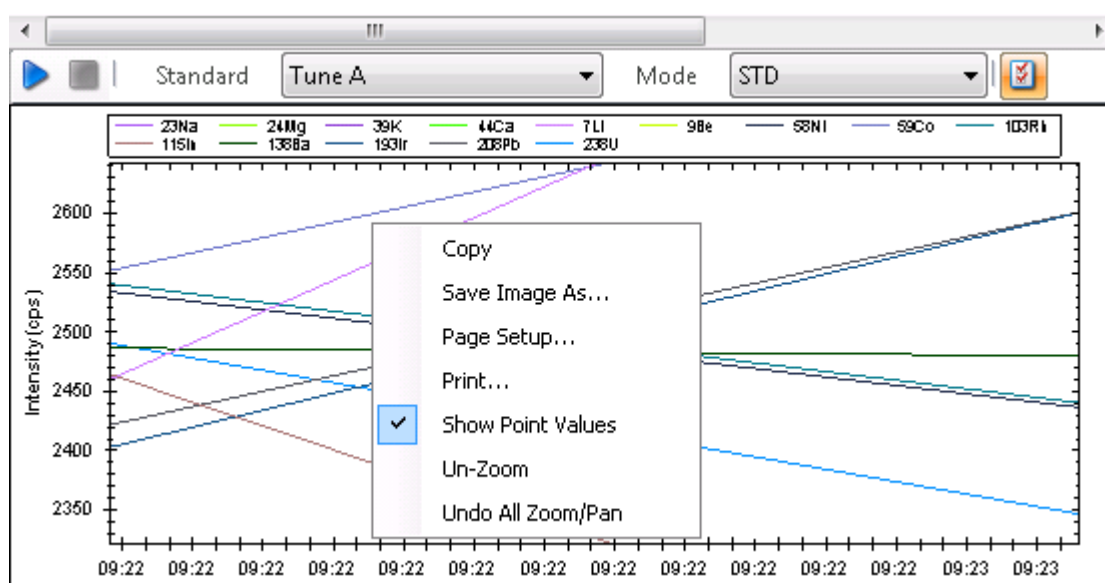

Figure 5-10. Real-time display on Dashboard
5. Click  to start the real-time display, see Figure 5-10.